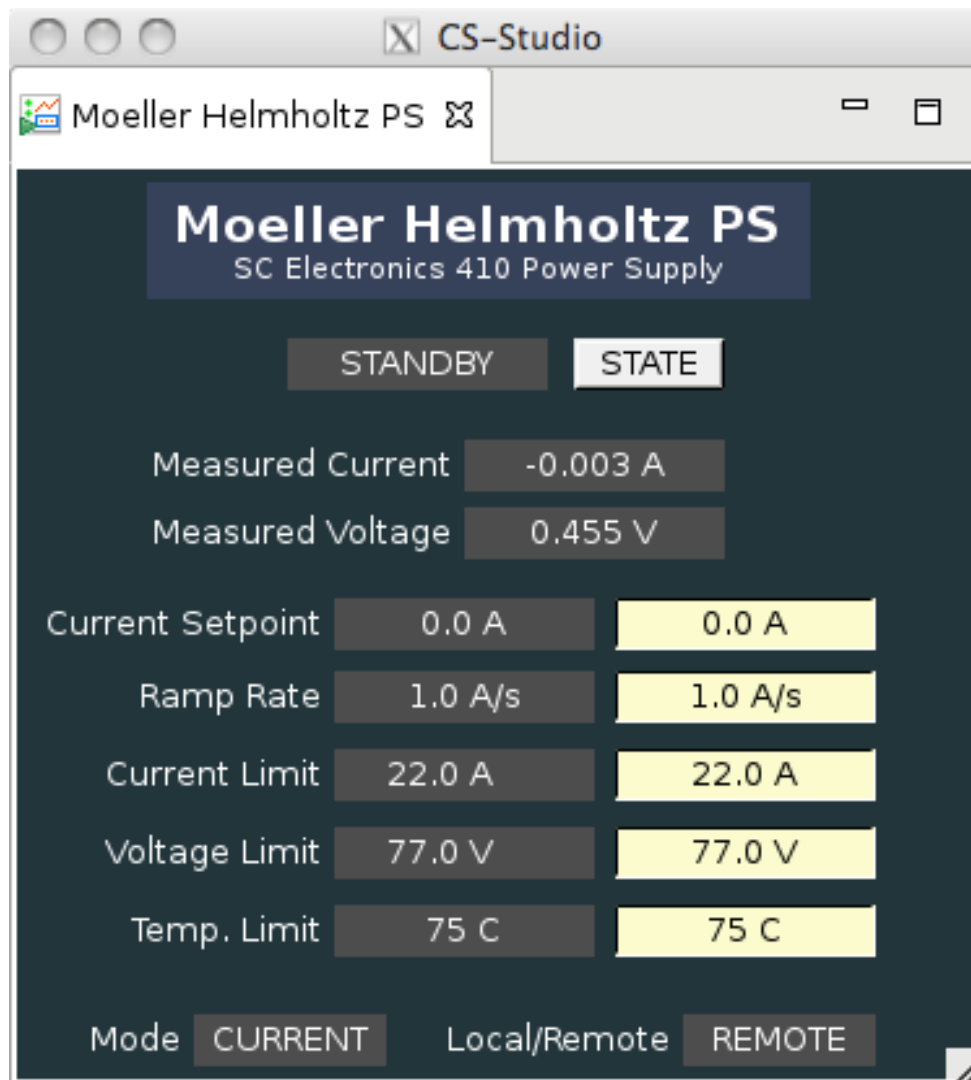

Figure 3: Control GUI for the Möller target Helmholtz coils power supply.
- (c) The target is polarized to its saturation by a longitudinal (along the beam) magnetic field generated using pair of Helmholtz coils. It is expected that the target will be saturated at  $\sim 1.8$  A current in the coils. The recommended current for Möller measurement is 3 A. A GUI for power supply of Helmholtz coils, "Moeller Helmholtz PS" see Fig.3, has two controls, button "STATE" defines state of the power supply. Typically it will be in "STANDBY" state when is not used. To energize coils first from the menu in "STATE" chose PS ON, then in "Current Setpoint", a white window, write the value, either 3 or  $-3$ . Beam polarization measurements with both orientations the Helmholtz field is recommended to check systematics.